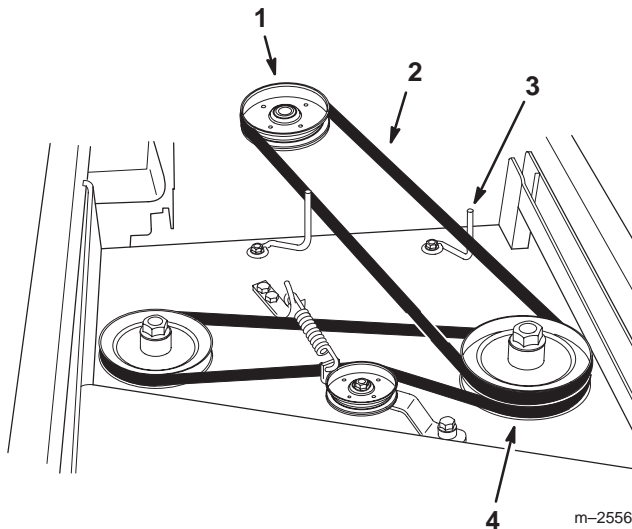

Figure 26
4. Remove the worn drive belt (Fig. 26).
5. Install the new drive belt onto the traction unit drive pulley and the top groove of the left spindle pulley (Fig. 26).